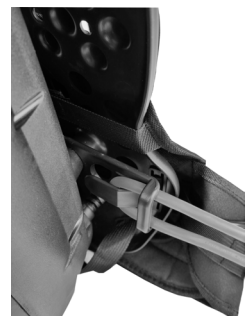

Fig. 12
1. Connect the extension cord to extension cord relief (Fig 12) and connect vacuum plug to extension cord. Plug extension cord into the electrical outlet.